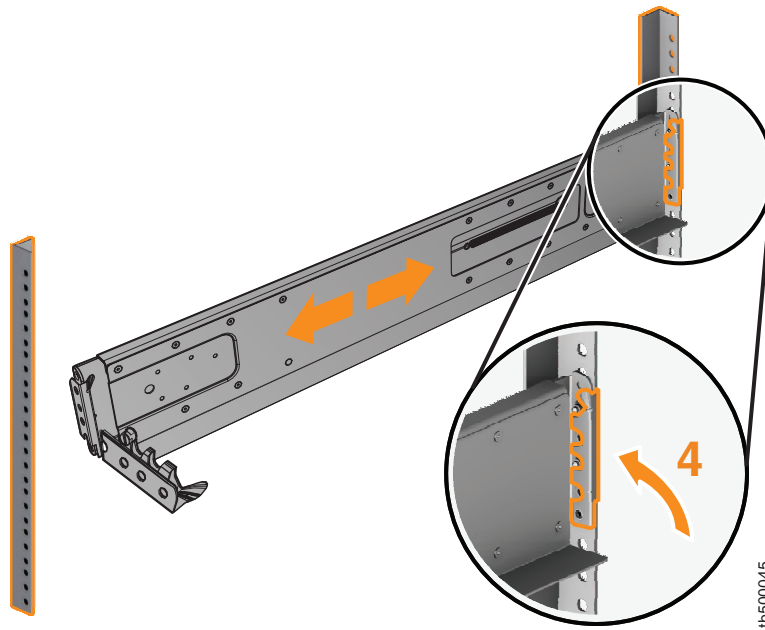

Figure 14. Opening the hinge brackets
5. At each end of the rail, grasp the tab and pull *firmly* to open the hinge bracket. (See Figure 14 on page 22.)